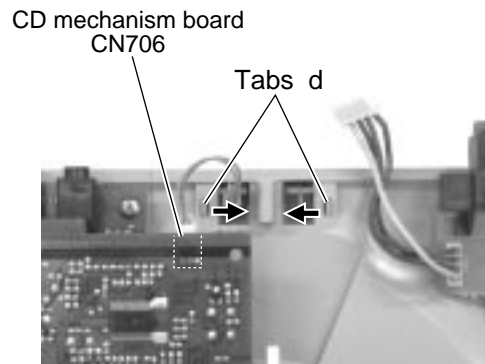

Fig.41
■ Removing the switch board (See Fig.41)
■ Removing the LED board (See Fig.41 and 42)